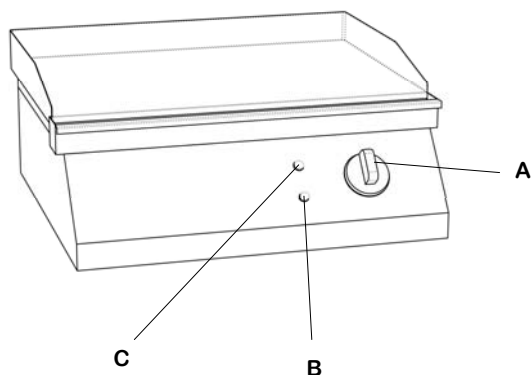

Fig.1
2. Turn the thermostat (A fig.1) until the temperature setting required is reached. The heating light (B fig.1) will come on and will go off when the set teparture is reached. The light (C fig.1) indicates that the appliance is connected to the power supply.
1. Put the thermostat (A fig.2) into position "0", and check that the lights (B fig.2) and (C fig.1) are extinguished.